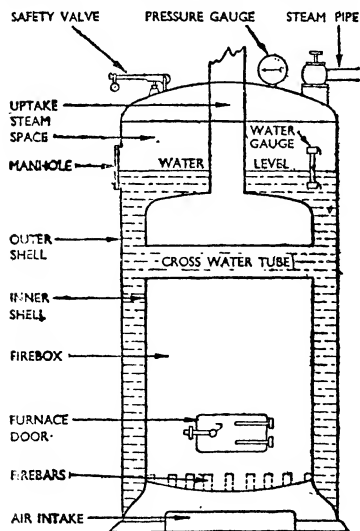

Fig. 5. Simple boiler of the vertical type which can be adapted for use with small engines and in restricted space.
**VERTICAL OR HORIZONTAL BOILERS.** A simple vertical boiler is illustrated in Fig. 5. This consists of an outer shell of riveted steel plates, heavily lagged to prevent loss of heat by radiation. Within the shell is a fire-box or chamber surrounded by water.